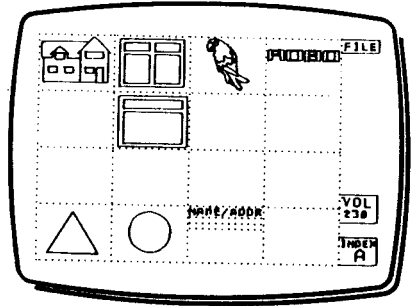

Fig 4
- 8 FILE the modified drawing in an empty library location (Fig 4).